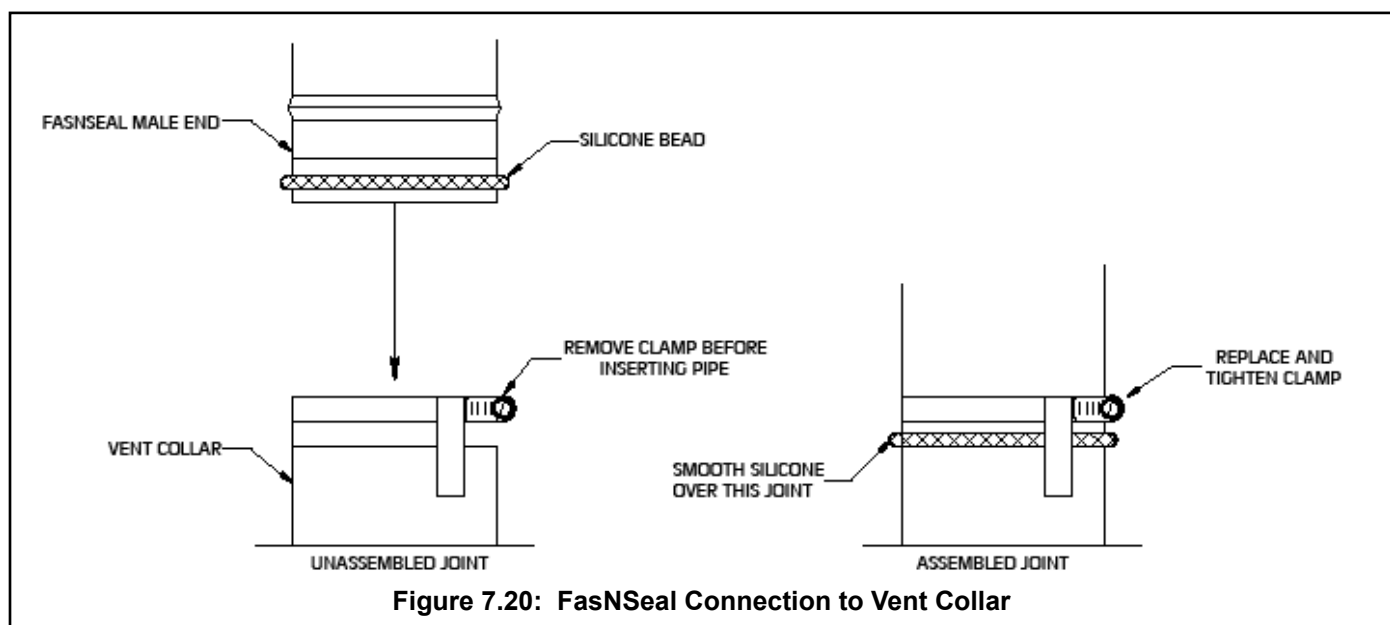

Figure 7.20: FasNSeal Connection to Vent Collar
- b) Remove the hose clamp shipped on the FCM vent collar. Bend the three hose clamp tabs on this collar outward slightly. Clean the exterior of the male end of the first piece of pipe and the inside of the vent collar on the boiler. Remove dirt, grease, and moisture from the surfaces to be sealed. On the male end of the pipe, apply a ¼" wide bead of high temperature silicone approximately 1/4 inch from the male end of the pipe. Insert the male end of the pipe into the boiler vent collar until it bottoms out. Apply an additional bead of silicone over the outside of the joint and the seams on the vent collar and smooth out (Fig 7.20). Replace and tighten the clamp on the vent collar.